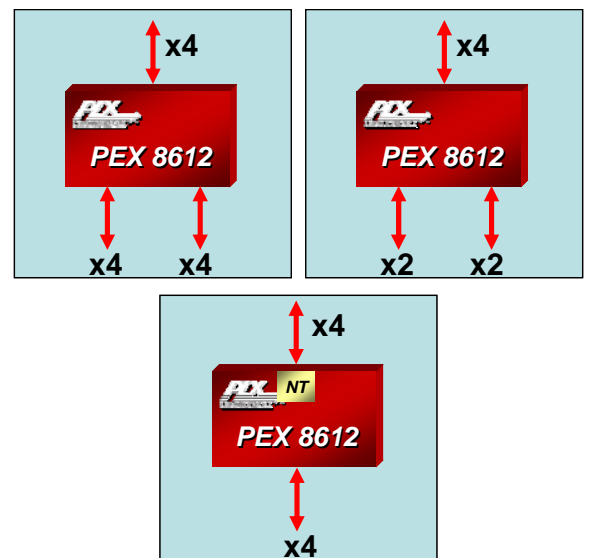
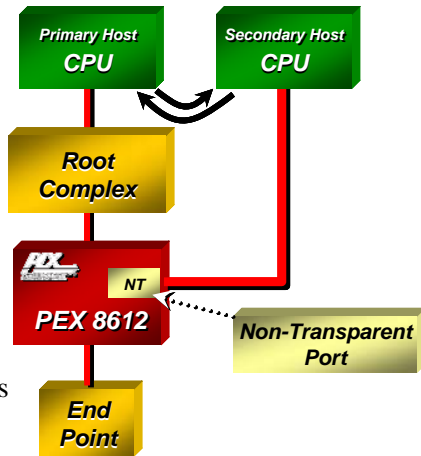

Figure 1. Common Port Configurations
Figure 2. Non-Transparent Port
The PEX 8612's 3 ports can be configured to lane widths of x1, x2, or x4. Flexible buffer allocation, along with the device's **flexible packet flow control**, maximizes throughput for applications where more traffic flows in the downstream, rather than upstream, direction. Any port can be designated as the upstream port, which can be changed dynamically. The PEX 8612 also provides several ways to configure its registers. The device can be configured through strapping pins, I²C interface, host software, or an optional serial EEPROM. This allows for easy debug during the development phase, performance monitoring during the operation phase, and driver or software upgrade. Figure 1 shows some of the PEX 8612's common port configurations.
The PEX 8612 product supports a **Non-Transparent (NT) Port**, which enables the implementation of **multi-host systems** and **intelligent I/O modules** in storage, communications, and blade server applications. The NT port allows systems to isolate host memory domains by presenting the processor subsystem as an endpoint rather than another memory system. Base address registers are used to translate addresses; doorbell registers are used to send interrupts between the address domains; and scratchpad registers (accessible by both CPUs) allow inter-processor communication (see Figure 2). In a two-port configuration (as in Figure 1), the PEX 8612 can serve as an NT buffer, isolating two host domains via two x4 links.